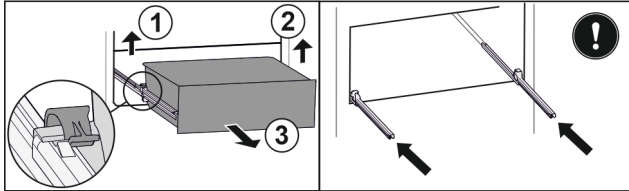

Fig. 68
- Lift left clamp and simultaneously pull drawer forwards on the left. Fig. 68 (1)
- Lift right clamp and simultaneously pull drawer forwards on the right. Fig. 68 (2)
- Remove drawer to the front. Fig. 68 (3)